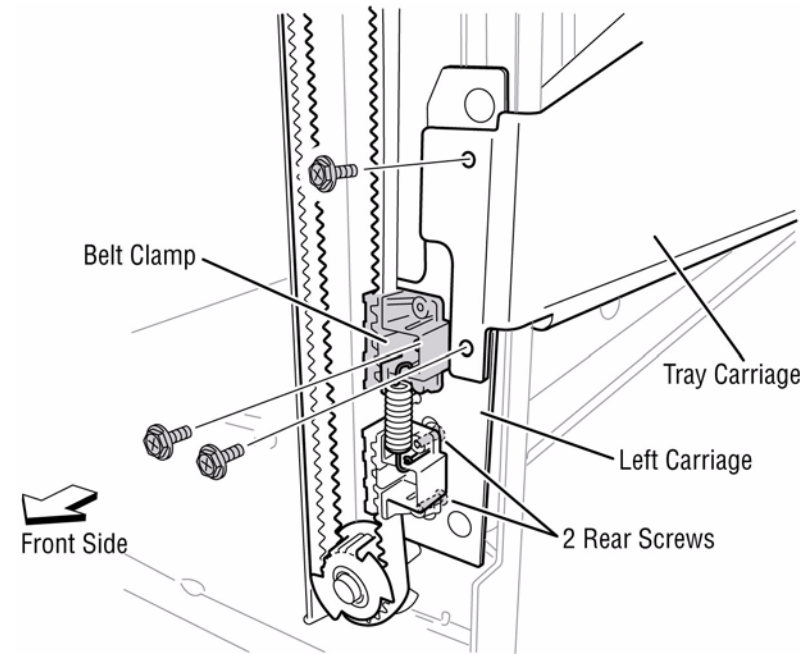

Figure 2 Removing Front Stacker Belt
6. Removing the front Stacker Drive Belt (Figure 2).
1. Reinstall the components in the reverse order of the removal procedure. Refer to Figure 1 and Figure 2 for Stacker Drive Belt positioning in the Belt Clamps.